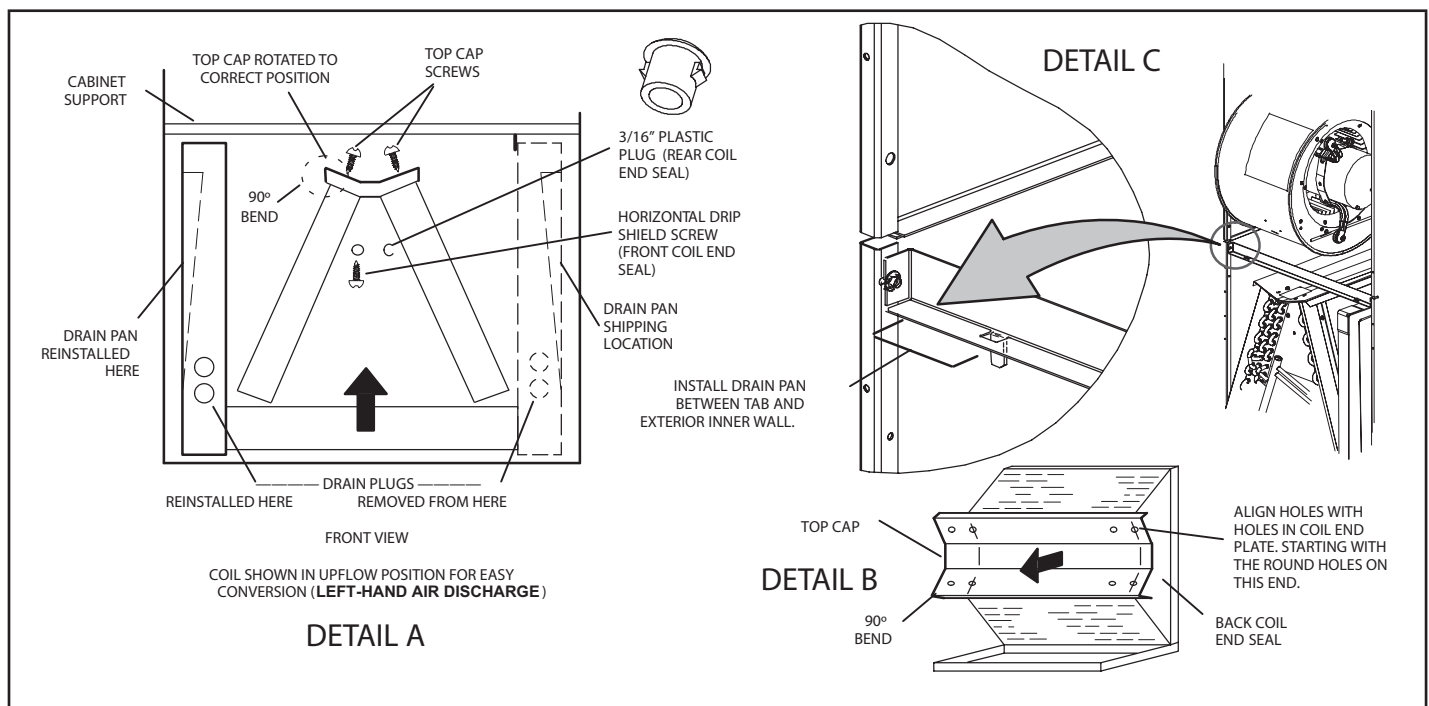

FIGURE 5. Field Modification for Left-Hand Discharge
- 4 - Remove screws from top cap. Remove horizontal drip shield screw located in the center of the back coil end seal as illustrated in figure 5.
- 7 - Rotate top cap 180° front-to-back and align with unused screw holes. Holes must align with front and back coil end plates. The top cap has a 45° bend on one side and a 90° bend on the other. The 90° bend must be on the same side as the horizontal drain pan as illustrated in Figure 5.